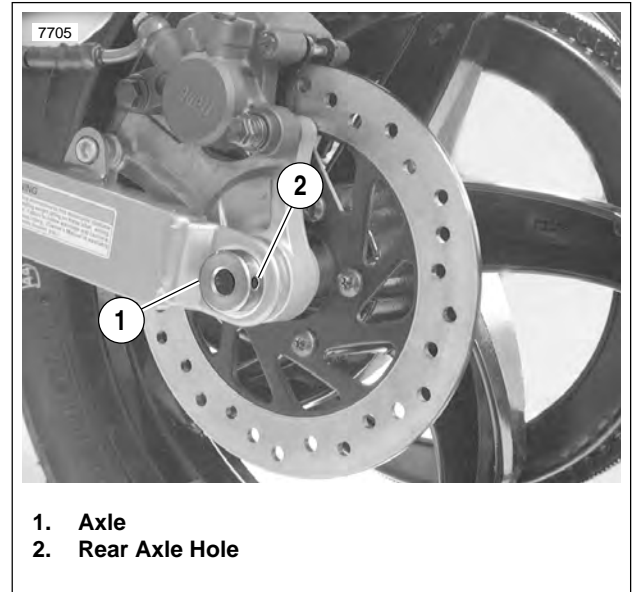

Figure 2-10. Rear Axle, Left Side
2. See Figure 2-10. Hold left side spacer in place and slide caliper and carrier over rotor.